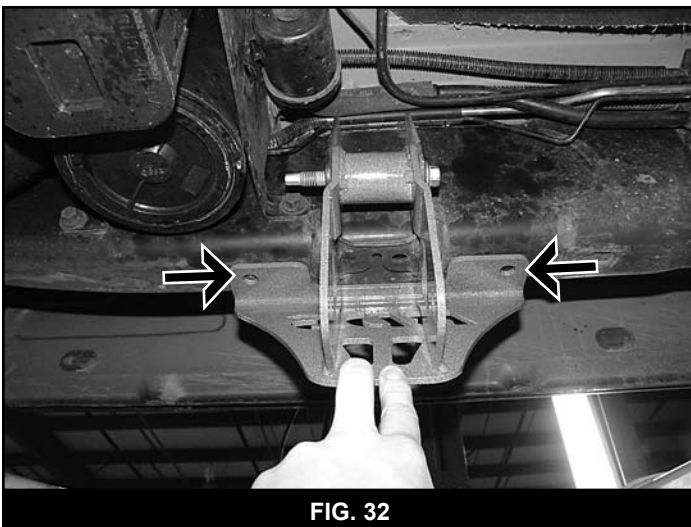

FIG. 32
66. Install DRIVER'S SIDE torsion bar drop bracket (01235) with OE hardware into OE torsion bar crossmember mount and mark 2 holes to be drilled (Fig 32). Remove bracket and drill holes to 5/16".